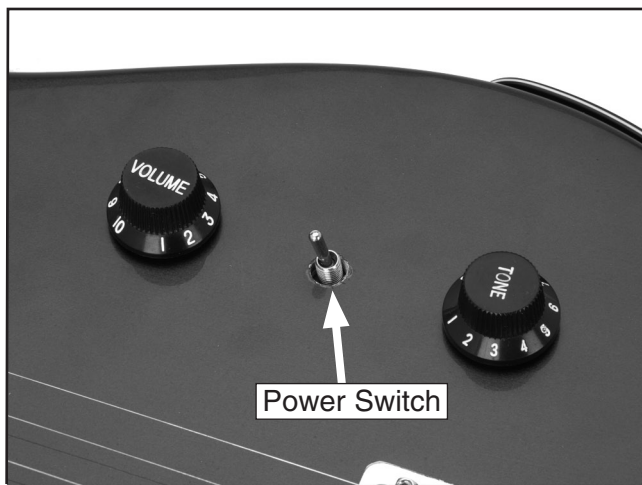

Figure 18. Installing power switch.
6. Insert the power switch, which is mounted to the circuit board, through the guitar body, as shown in **Figure 18**.